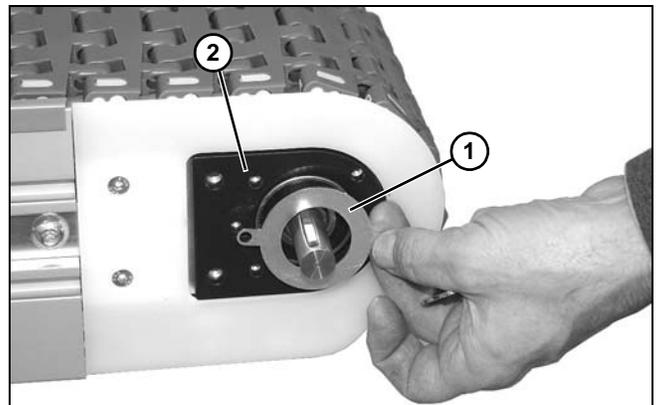

Figure 142
10. Install bearing stop plate (Figure 142, item 1) onto drive backing plate (Figure 142, item 2).